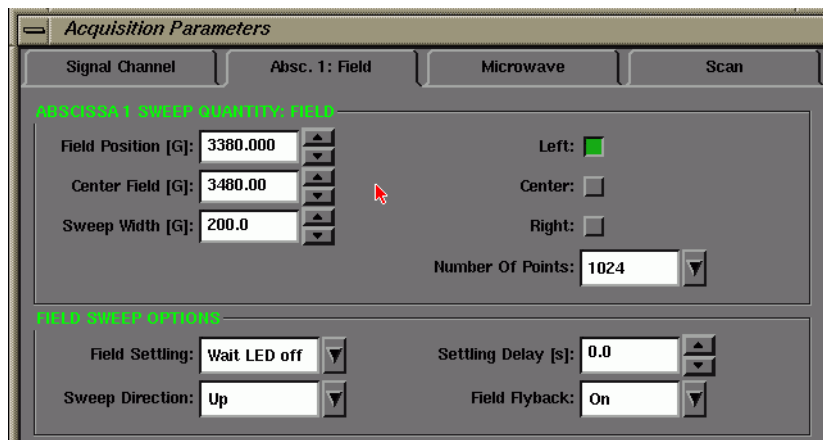

Figure 3-16 The magnetic field parameters.
7. **Check the Field parameters.** Click the Absc. 1: Field tab. (See Figure 3-16.) Edit the parameters in the dialog box so that they match those shown in Figure 3-16.